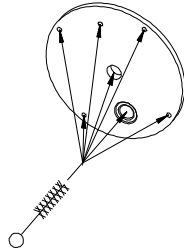

Figure 6-4 Clean head
a. The head plunger openings, bushing cavities, air relief hole, dispense nozzle mounting holes and mix ports, as shown in figure 6-4.